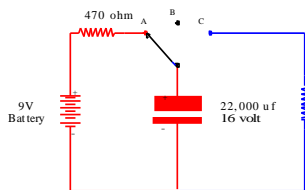

figure 4i
i. Figure 4i, Switch in position A. capacitor charges via 470 ohm